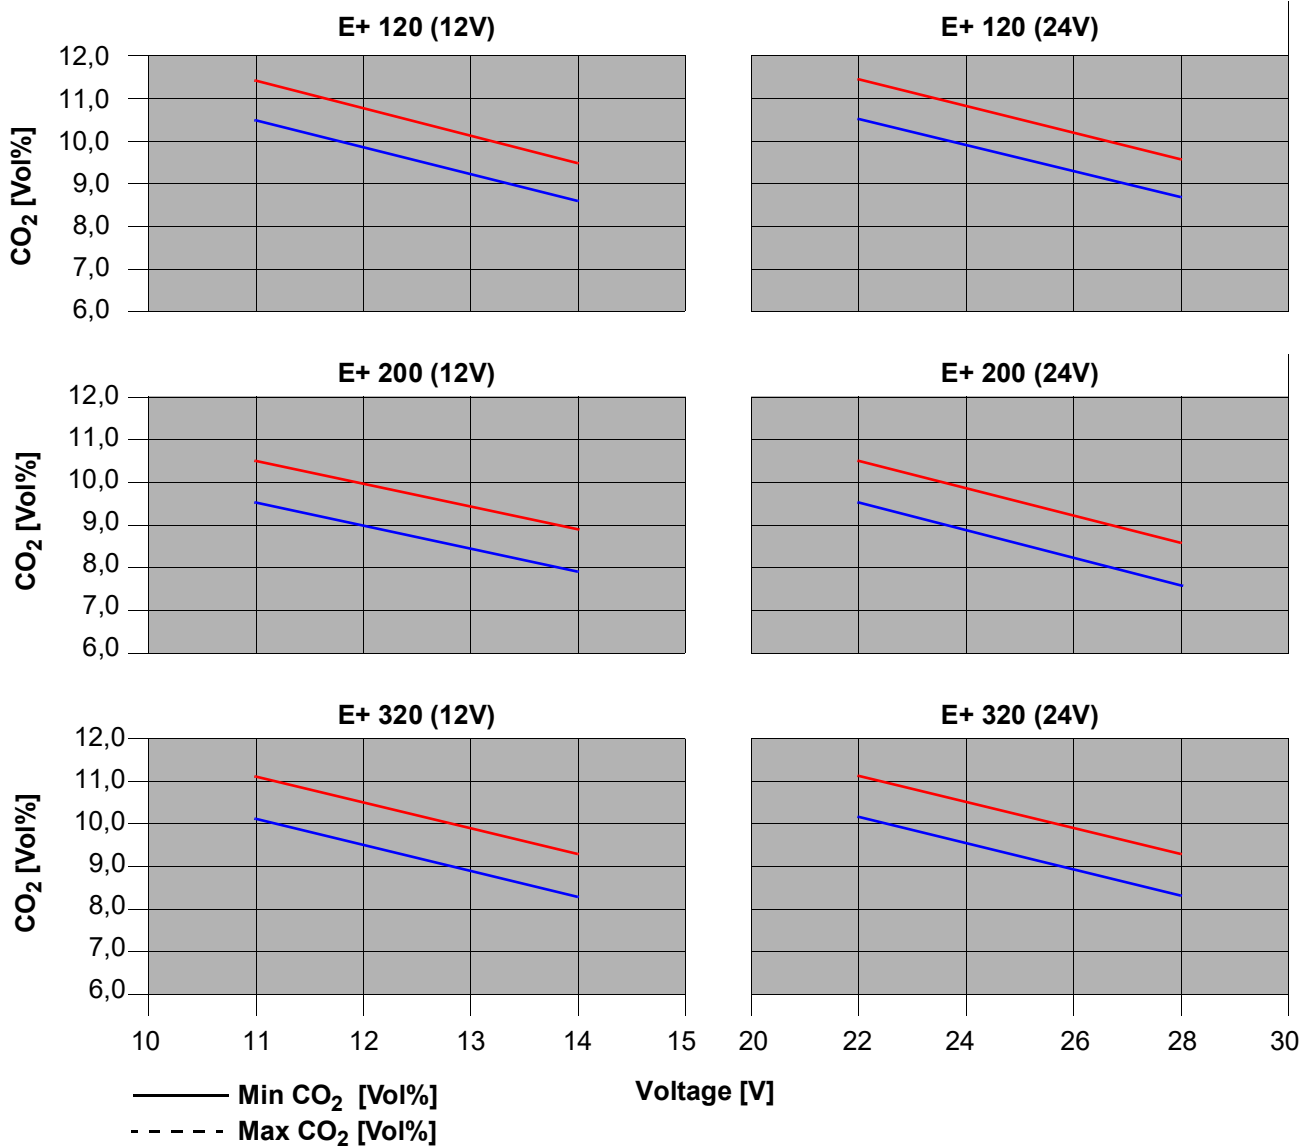

Fig. 702 CO₂ Content
1. After a combustion period of approx. 3 min. measure the CO₂ content in the exhaust and compare it with the target value in Fig. 702.
3. Measure the CO₂ content and compare readings with the appropriate diagram (see Fig. 702).